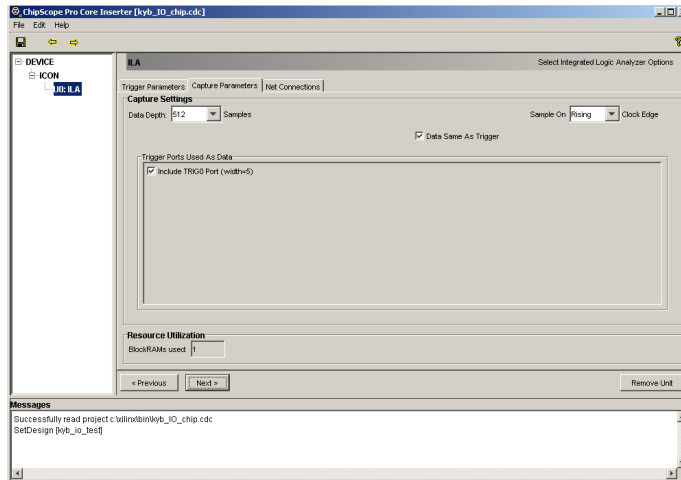

Figure 17
26. In “Capture Parameters” tab enter the parameters as shown in Figure 17 and click next.